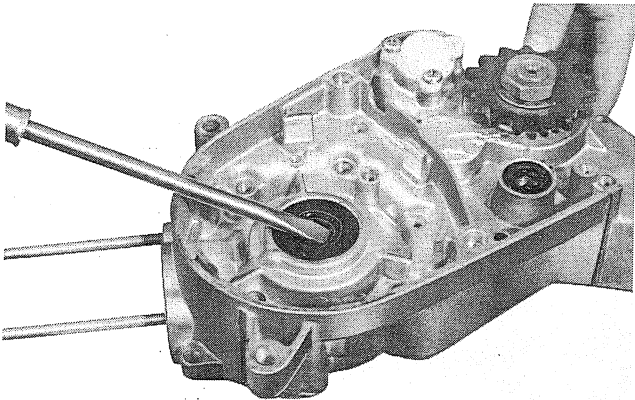

Fig. 3-17-1
- a. Pry the oil seals out of place with a slot head screwdriver. (Fig. 3-17-1)